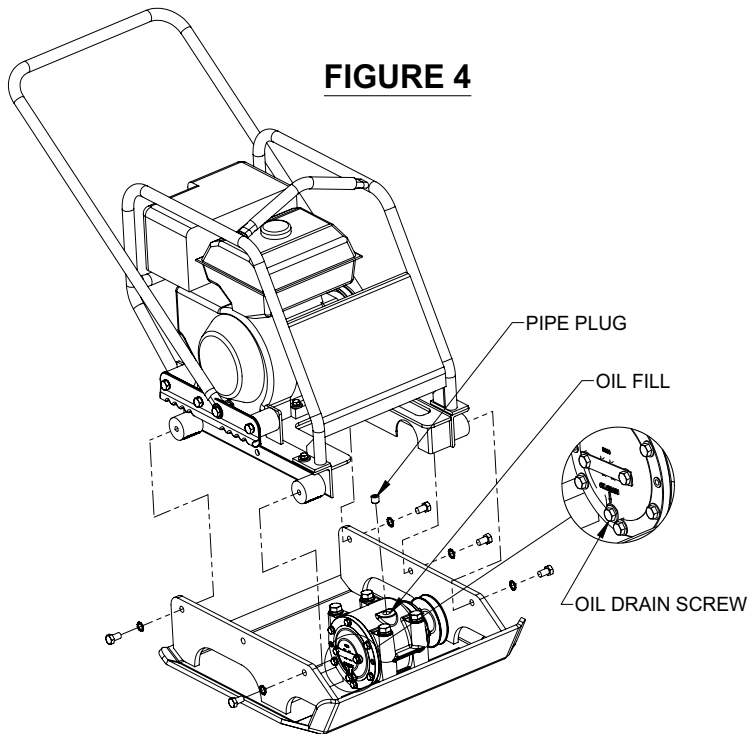

FIGURE 4
4. Remove five hex head screws (#15) and lock washer (#16) from base plate and remove engine deck & roll cage assembly. (See Figure 4)
3. Remove five hex head screws (#15) and lock washer (#16) from base plate and remove engine deck & roll cage assembly. (See figure 4)